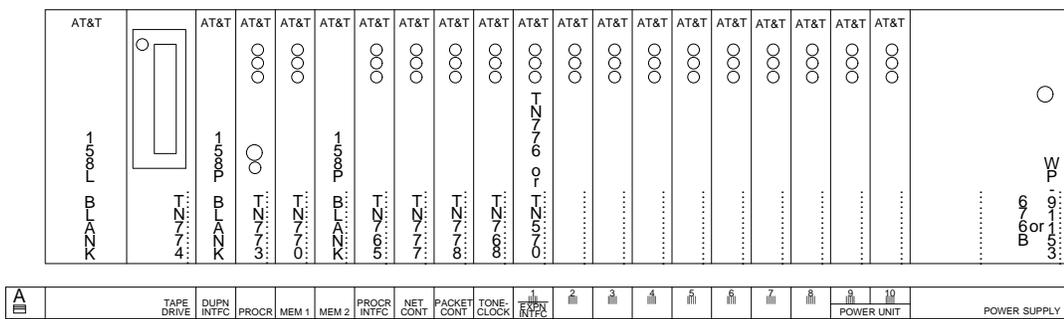

Figure 6-3. Circuit-Pack Locations in Simplex G1 Control Cabinet
1. At the J58890L-1 control cabinet, remove the circuit-pack blank from the "MEM 2" slot on the right side of the existing TN770 Memory circuit pack (see Figure 6-3).
1. At each control cabinet, remove the circuit-pack blank from the "MEM 2" slot on the right side of the existing TN770 Memory circuit pack (see Figure 6-3).